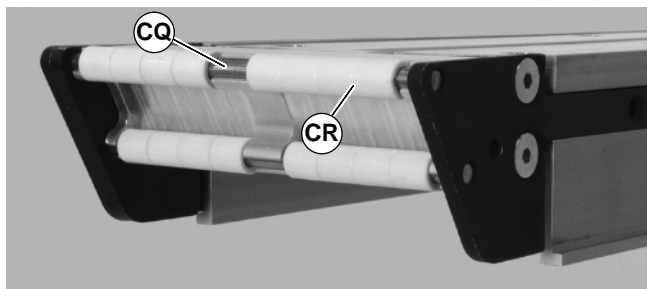

Figure 58
3. Slide bearing rods (CQ of Figure 58) out side of conveyor and replace bearings (CR) as necessary.